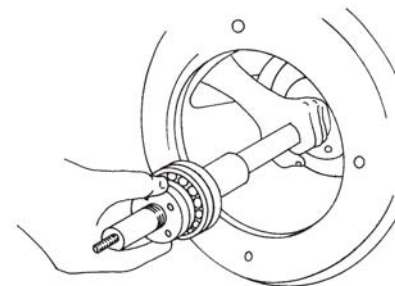

FIG.9
- 11) Assemble the hub on the pump-shaft, keeping a distance of 7 mm between the threaded ring nut (pos. 80) and the part underneath the shaft itself. In order to find the exact position, screw or unscrew the ring nut until reaching the required point **fig. 9**; fix the ring nut with the four socket head screws (pos. 84). If you want to make the impeller go forward or backward in respect to its original position, once all the pieces of the pump are assembled, adjust the position of the shaft as described above.
- 12) Fix the support flange (pos. 51), the rectangular plates (pos. 3 – 40) and the flange of the column onto the metal lantern (pos. 46) with the screws (pos. 38).
- 13) Insert its covering liner onto the shaft (pos. 8) and the bushes of the rotating guides (pos. 16 – 69). Place the rear block (pos. 12) in its special seat.
- 14) Assemble the impeller (pos.21).
- 15) Close the pump-body (pos. 22), by screwing the covered nuts (pos. 9) with an 18 or 22 mm elbowed wrench.
- 16) Screw the delivery tube (pos. 26) to the body.
- 17) Apply the electric motor (pos. 1) to the lantern (pos. 39) taking care that the two hubs of the flexible coupling (pos. 57) are exactly the same distance apart as before disassembling the machine. If they should not be, loosen the socket head screw (pos. 32) which fixes the hub to the motor and reposition the part correctly.